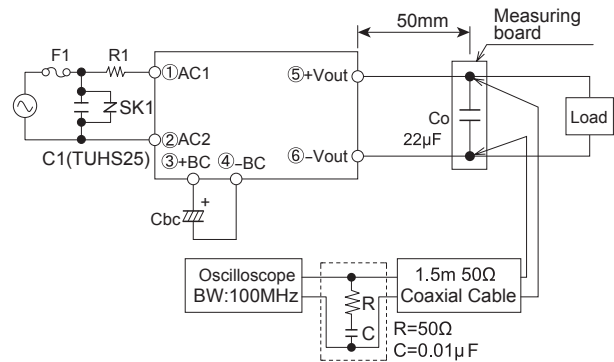

Fig.3.13 Method of Measuring Output Ripple and Ripple noise
■ The specified ripple and ripple noise are measured by the method introduced in Fig.3.13.